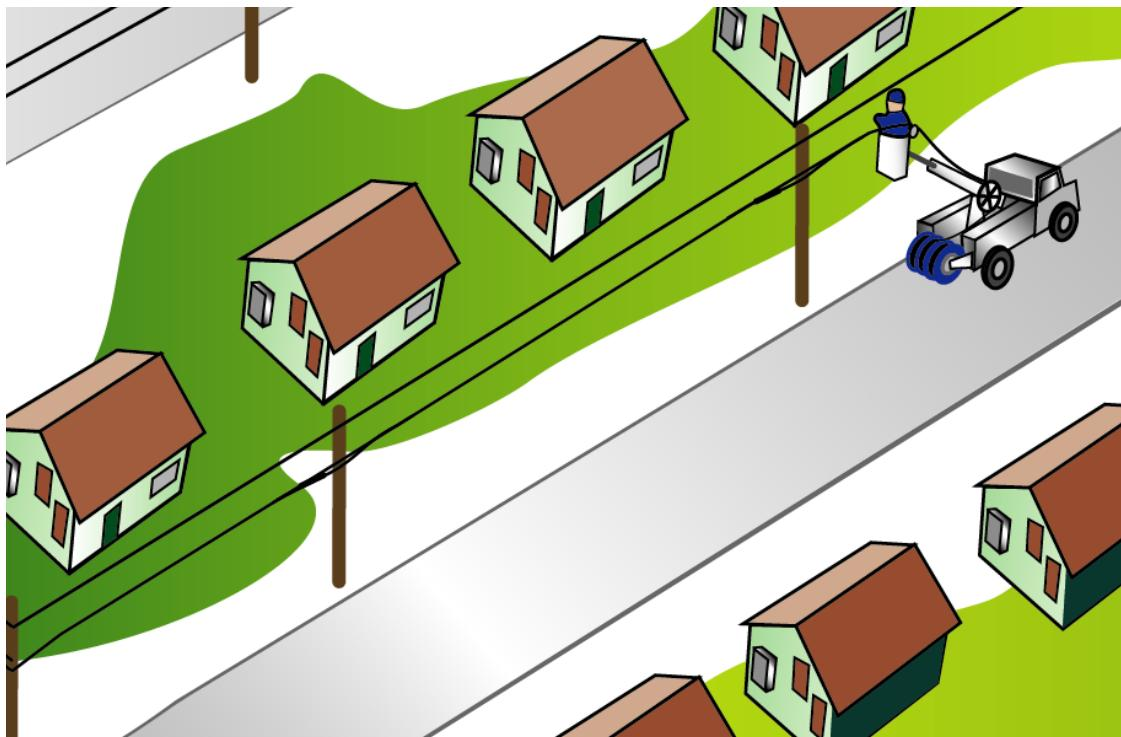

Figure 14. Cable Placement - Pull Beginning to End
This method involves hanging the distribution cable in one pass. The reel is typically loaded onto an arbor on the rear of a truck. The technician starts at the Central Office (CO) end of the run, feeds out the specified amount of slack, aligns the first PAM, and then progresses towards the other end of the run. See Figure 14.